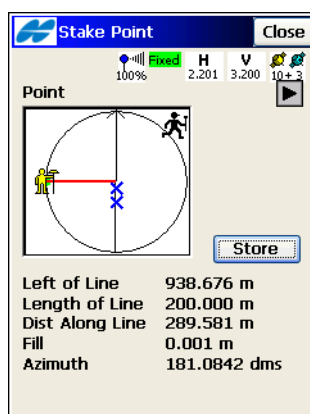

Figure 9-16. Stakeout Line
- For GPS+: use the information on the **Stakeout Line** screen for finding the target line. Tap **Store** after the point is close enough to the line and at the desired distance from the starting point (Figure 9-16).